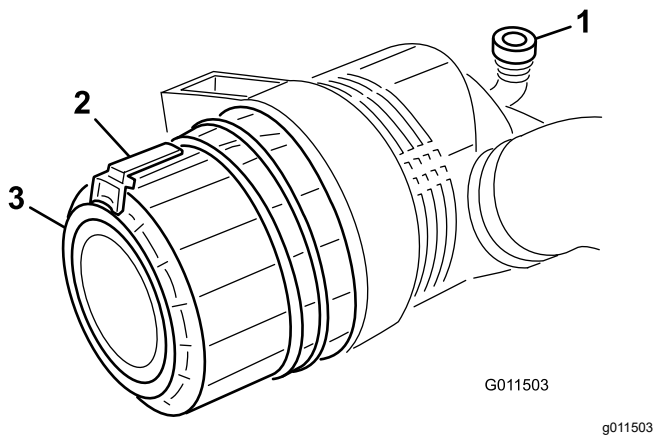

Figure 75
2. Pull the latch outward and rotate the air-cleaner cover counterclockwise (Figure 75).